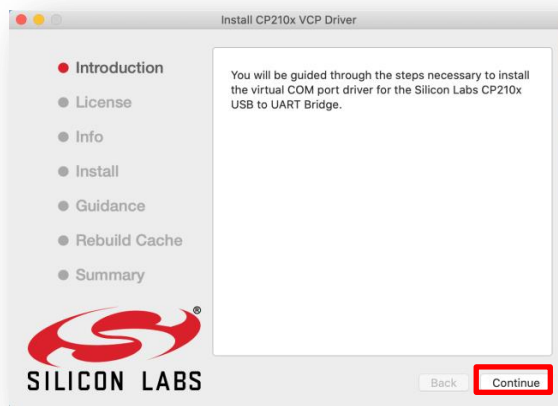

Figure 12 Driver installer window
- 3-2-2-6. Please install a new driver from Mac OS X 10.15 (Catalina) onwards. When clicking the icon following to 3-2-2-1, Figure 12 shows up.